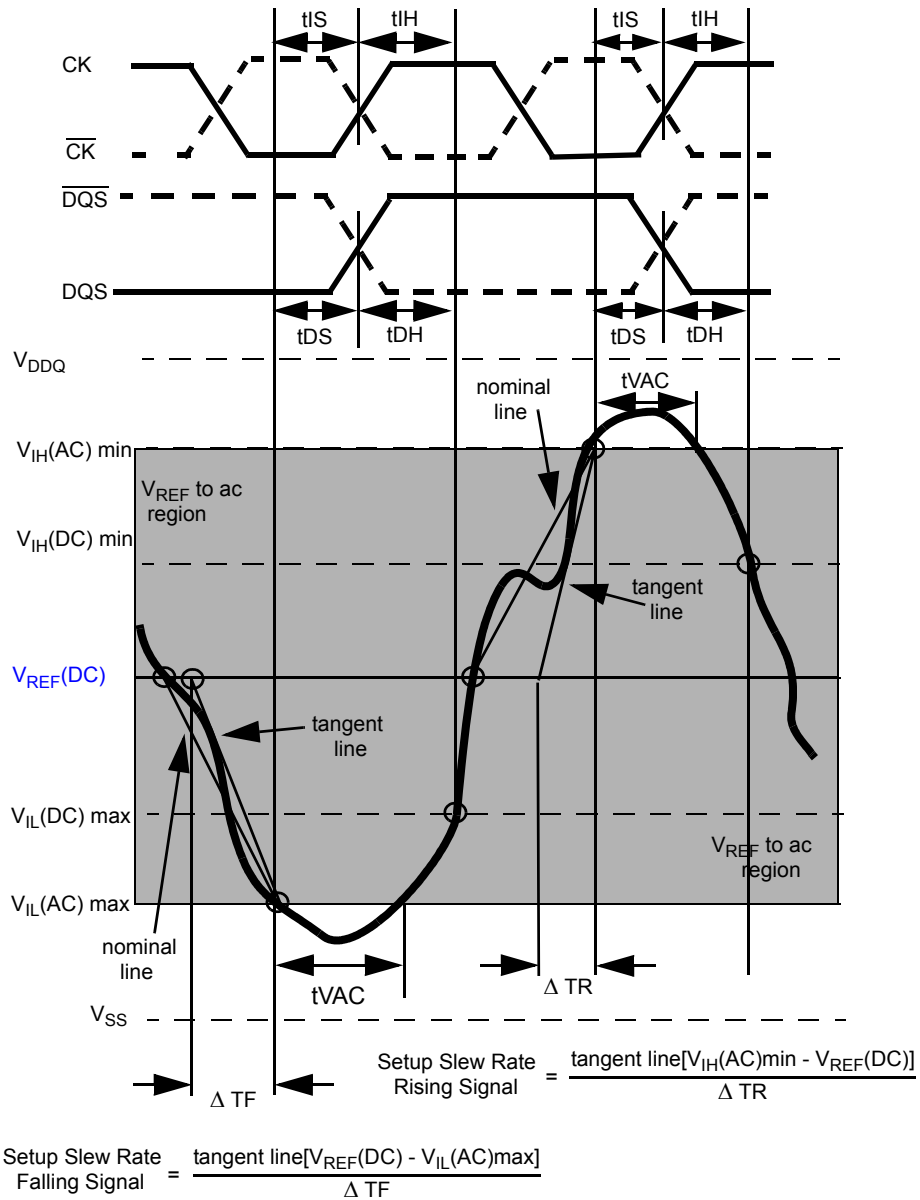

Figure 23. Illustration of tangent line for setup time  $t_{DS}$  (for DQ with respect to strobe) and  $t_{IS}$  (for ADD/CMD with respect to clock)
Example: tIS (total setup time) = tIS(base) + ΔtIS Setup (tIS) nominal slew rate for a rising signal is defined as the slew rate between the last crossing of VREF(DC) and the first crossing of VIH(AC)min. Setup (tIS) nominal slew rate for a falling signal is defined as the slew rate between the last crossing of VREF(DC) and the first crossing of VIL(AC)max. If the actual signal is always earlier than the nominal slew rate line between shaded 'VREF(DC) to ac region', use nominal slew rate for derating value (see Figure 21). If the actual signal is later than the nominal slew rate line anywhere between shaded 'VREF(DC) to ac region', the slew rate of a tangent line to the actual signal from the ac level to dc level is used for derating value (see Figure 23).